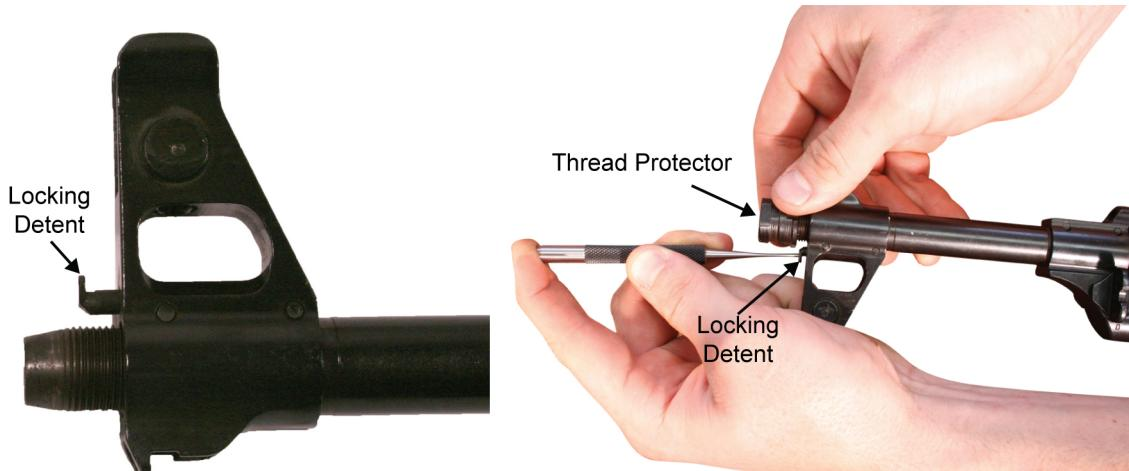

Figure 81. Installing the Thread Protector on the Muzzle.
c. While using a punch to hold down the locking detent, screw on the thread protector (some AK-74 rifles have a compensator instead of a thread protector) until it is seated tightly on the muzzle. Ensure that the locking detent is seated in one of the notches in the thread protector. Refer to Figure 81.